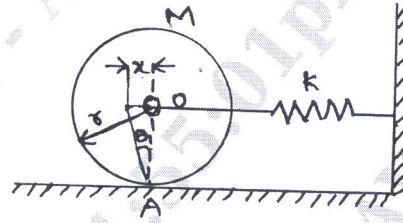

Fig Q2(b)
- b. Determine the natural frequency of the system shown in Fig Q2(b). Using Energy Method.